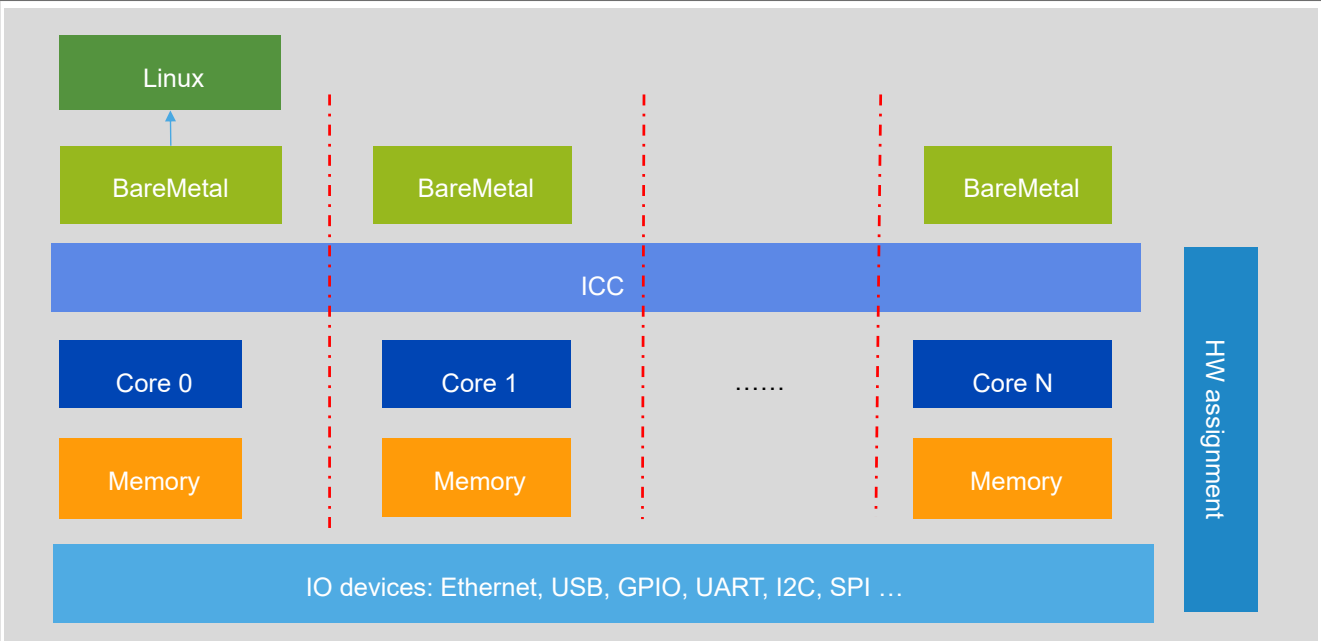

Figure 7. BareMetal Use Case 1
1. Core0 as a master core runs Linux to manage slave cores and communicate with server. Slave cores run Baremetal application for real-time processing. Refer Figure 7.